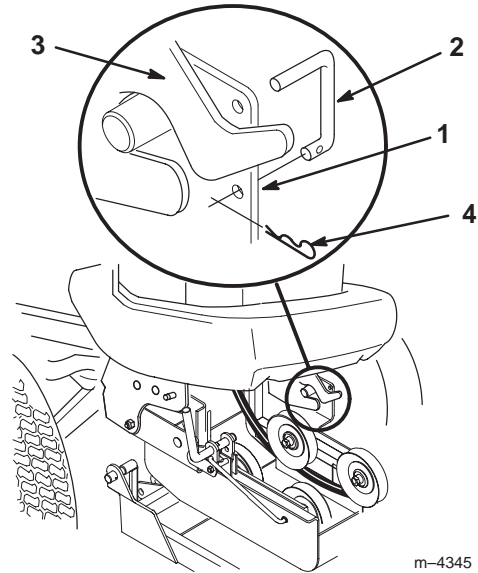

Figure 12
5. Install (2) “C” shaped pins into the locking holes of the pulley box. Secure them with (2) small hairpin coppers on the inside (Fig. 12).